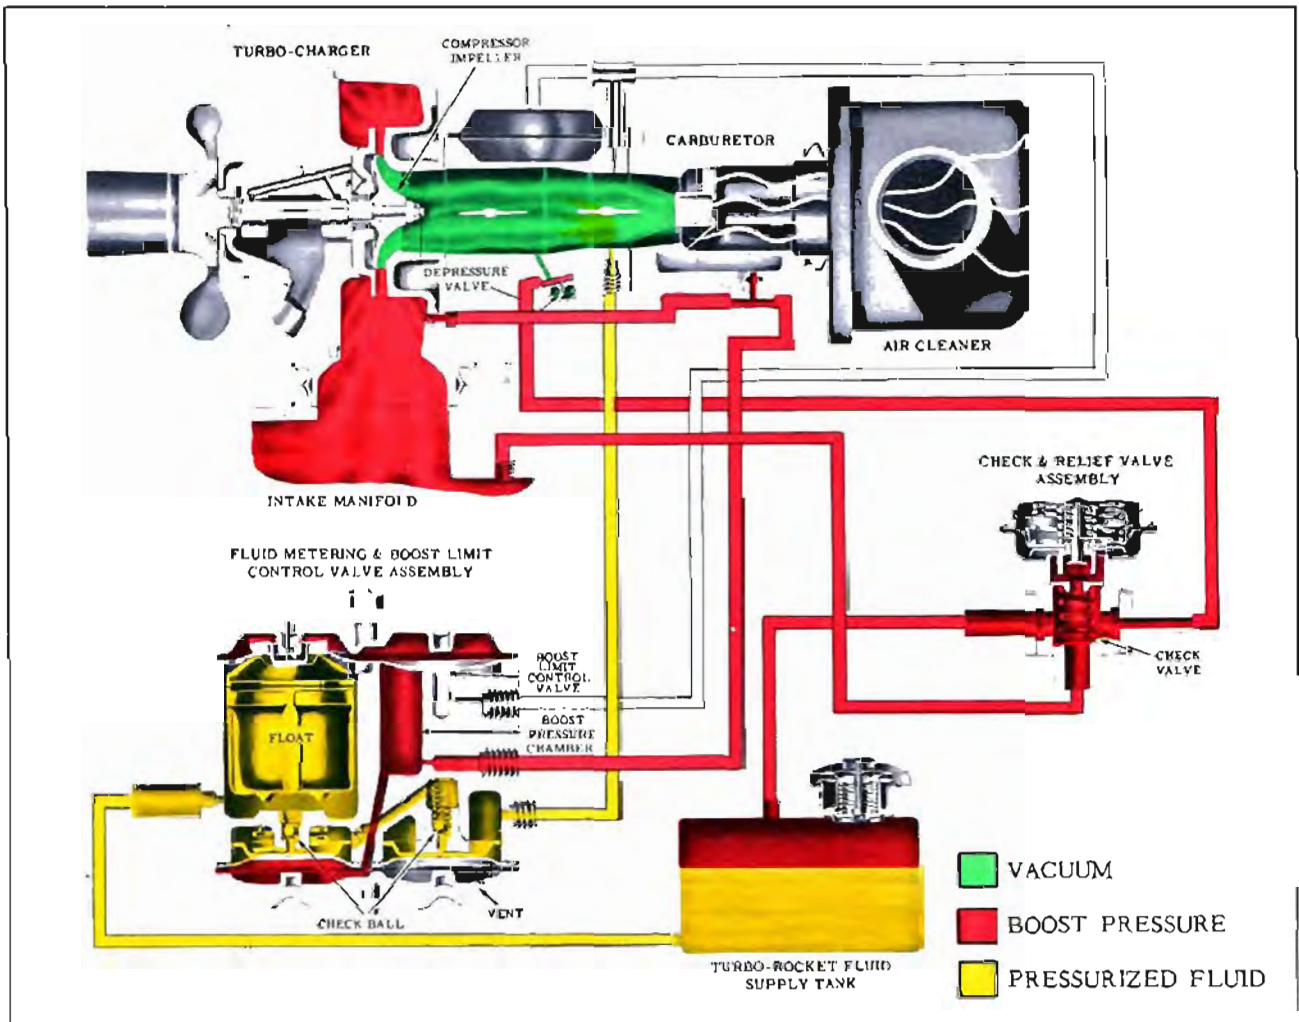

Fig. 9-109 Fluid Delivery
**FLUID DELIVERY (Fig. 9-109)**